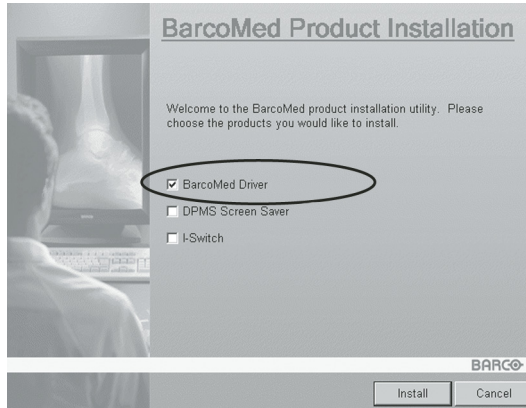

Figure 51
3. Make certain that the checkbox next to the driver is checked and that all other checkboxes are unchecked (see figure 51 on page 132). Click **“Install”** to continue.